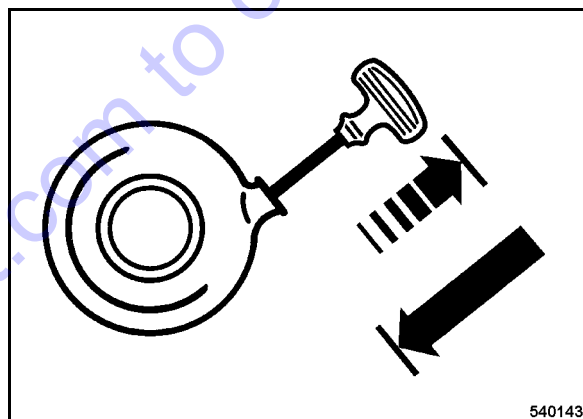

Fig. 25
- Pull the rope by the starter handle (Fig. 25) until resistance can be felt.